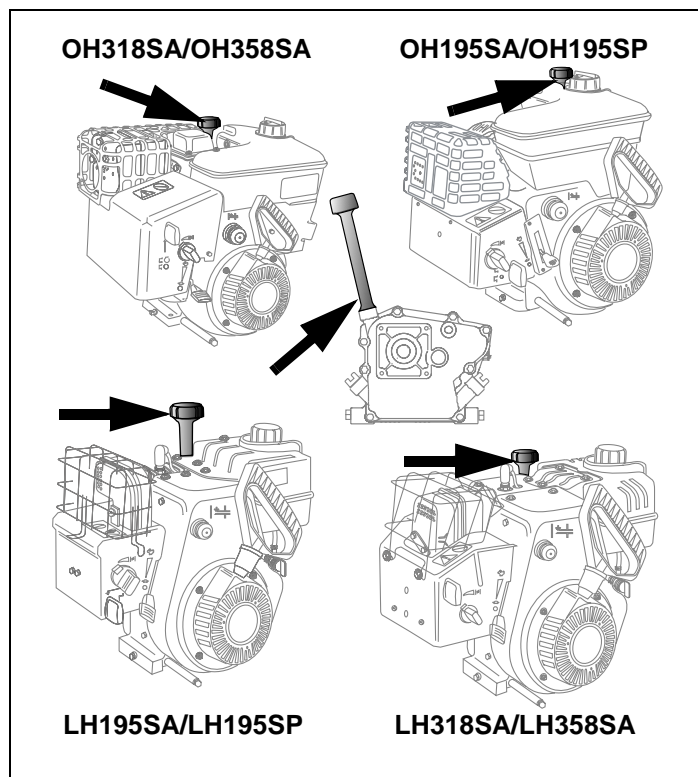

Figure 42. Oil Fill Cap/Dipstick Locations
11. Remove oil fill cap/dipstick. See Figure 42.
14. Install oil fill cap/dipstick. Tighten securely. See Figure 42.